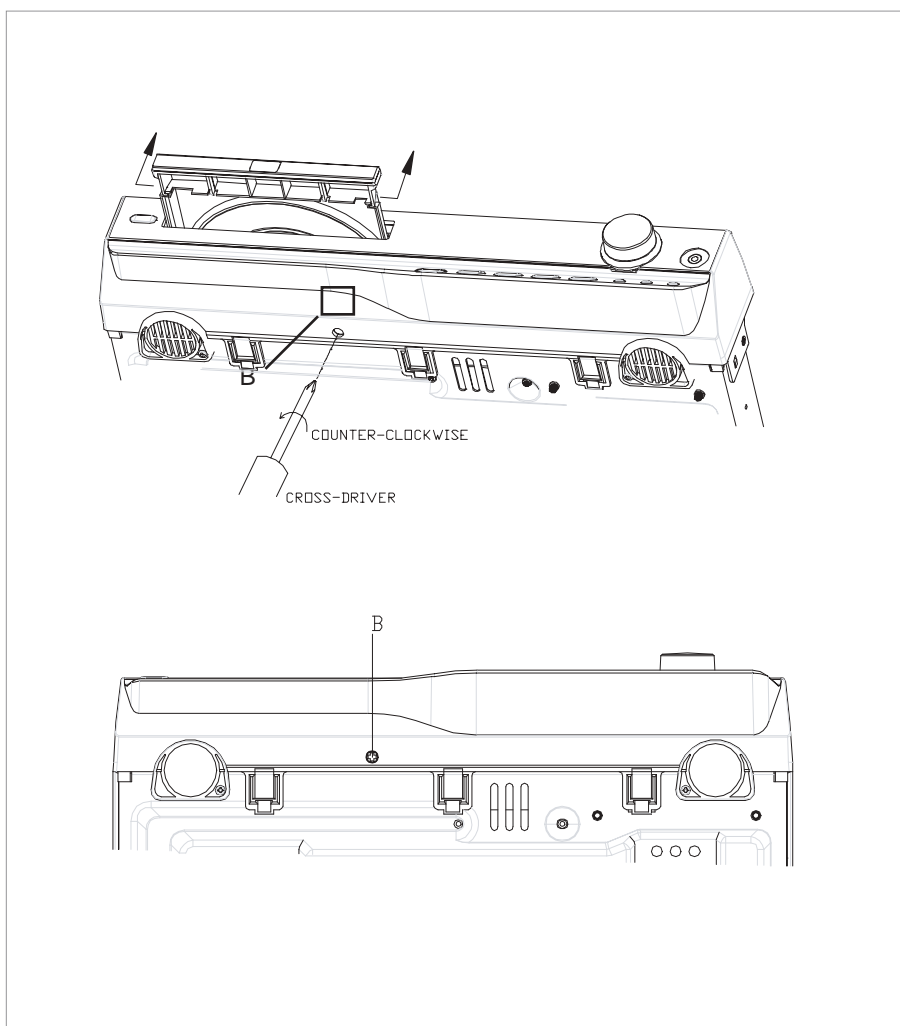

Fig.2
■ Removing the Tray Door (See Fig.2)